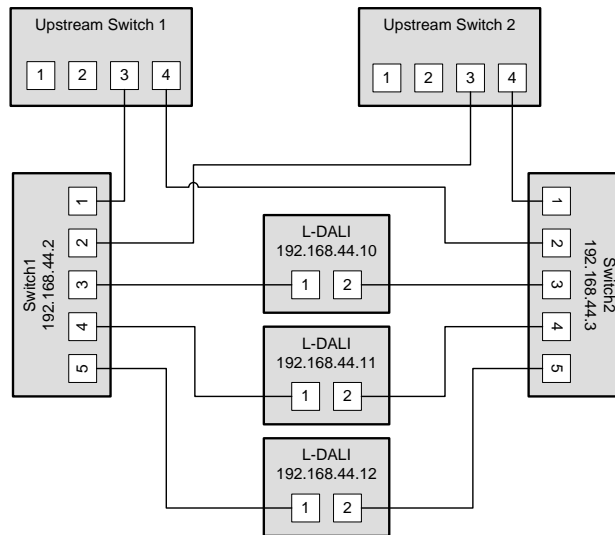

Figure 248: Fully redundant Ethernet topology
**Fully redundant topology:** Both Ethernet ports are connected to a different upstream switch. Thus, a single cable or upstream switch problem can be tolerated. This topology requires RSTP. In Figure 248, the L-DALI with IP addresses 192.168.44.10 to 192.168.44.12 are connected in this way. This connection scheme increases switch and cabling costs, but increases network resilience. Note that the upstream network is connected via the lowest-numbered ports. If this is not possible, the ports need to be configured to the lowest STP port priority value (which is the highest priority).
**Redundant upstream connection:** Switch1 and Switch2 are both connected to the upstream network, either to two ports on the same switch or to two redundant upstream switches. In this case, RSTP is needed to ensure a loop-free topology between the upstream switches, Switch1 and Switch2, so the RSTP domain includes the upstream network and the chained L-DALI devices. The configuration of Switch1 and Switch2 need to ensure that they are not selected as the root bridge. If possible device communication should be bound to a separate VLAN and MSTP (Multiple Spanning Tree Protocol) should be employed to isolate the spanning tree operations. This topology is shown in Figure 248.
The following example shows the configuration commands for Switch1, Switch2 and the upstream switch (HP Procurve syntax) in the setup shown in Figure 248.